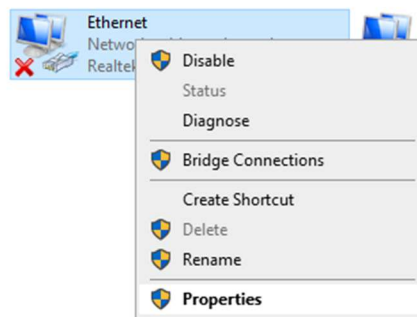

Fig. 5
- Click on "Change adapter options". A tab with all the network resources will appear (Fig.5).